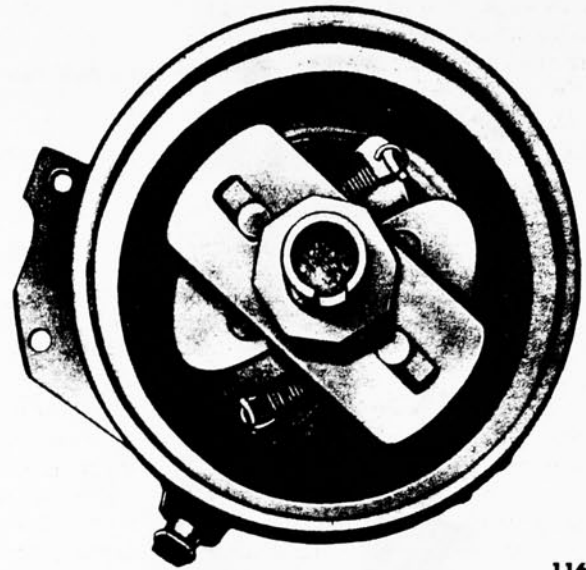

FIG. 33—Weights, Springs, and Cam Installed—Typical
4. Lubricate the inside diameter of the cam assembly with a high melting point ball bearing lubricant. Install the upper thrust washer, then install the cam and secure it with the spring retainer. Be sure the pins on the weights are in the slots on the stop plate. Apply a light film of cam lubricant to the cam lobes. Saturate the wick with S.A.E. 10W engine oil, then install the wick in the cam assembly (Fig. 33).